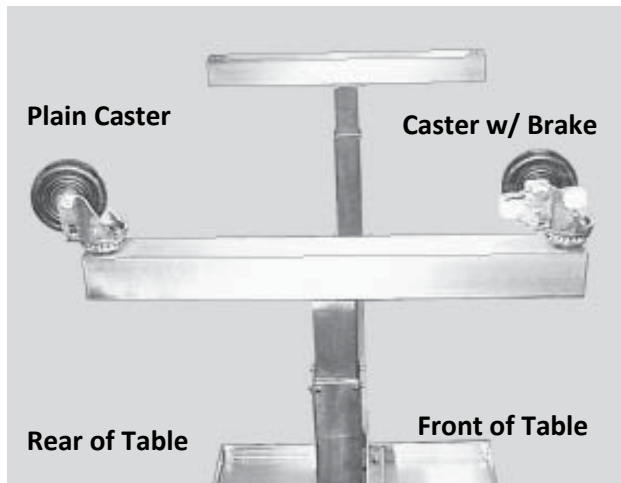

Figure 2-7
7. Thread two casters into each leg assembly (Figure 2-7) and tighten with a 1-3/4 in. wrench.